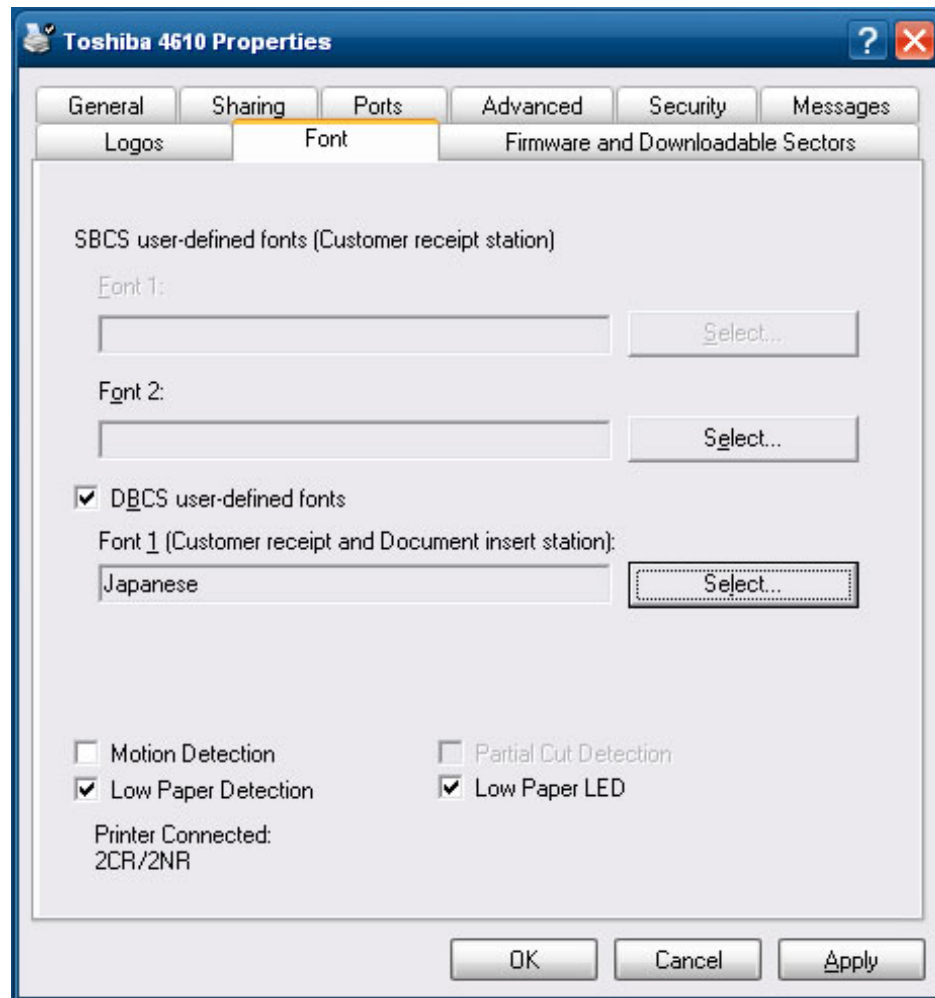

Figure 54. The General Tab window
3. Click the **Font** tab. See Figure 54.